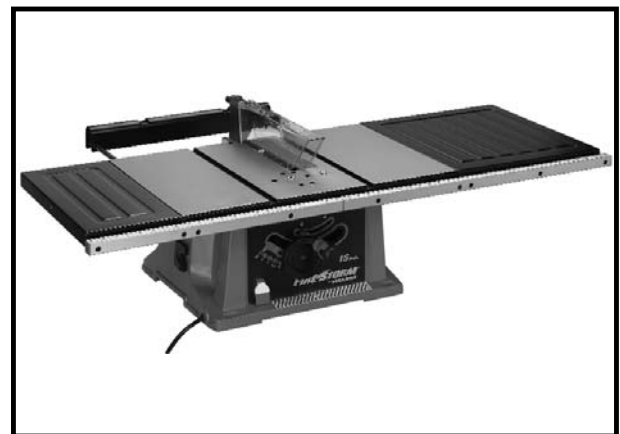

Fig. 25
3. Fig. 25, illustrates the guide rails properly assembled to saw table and extension wings.